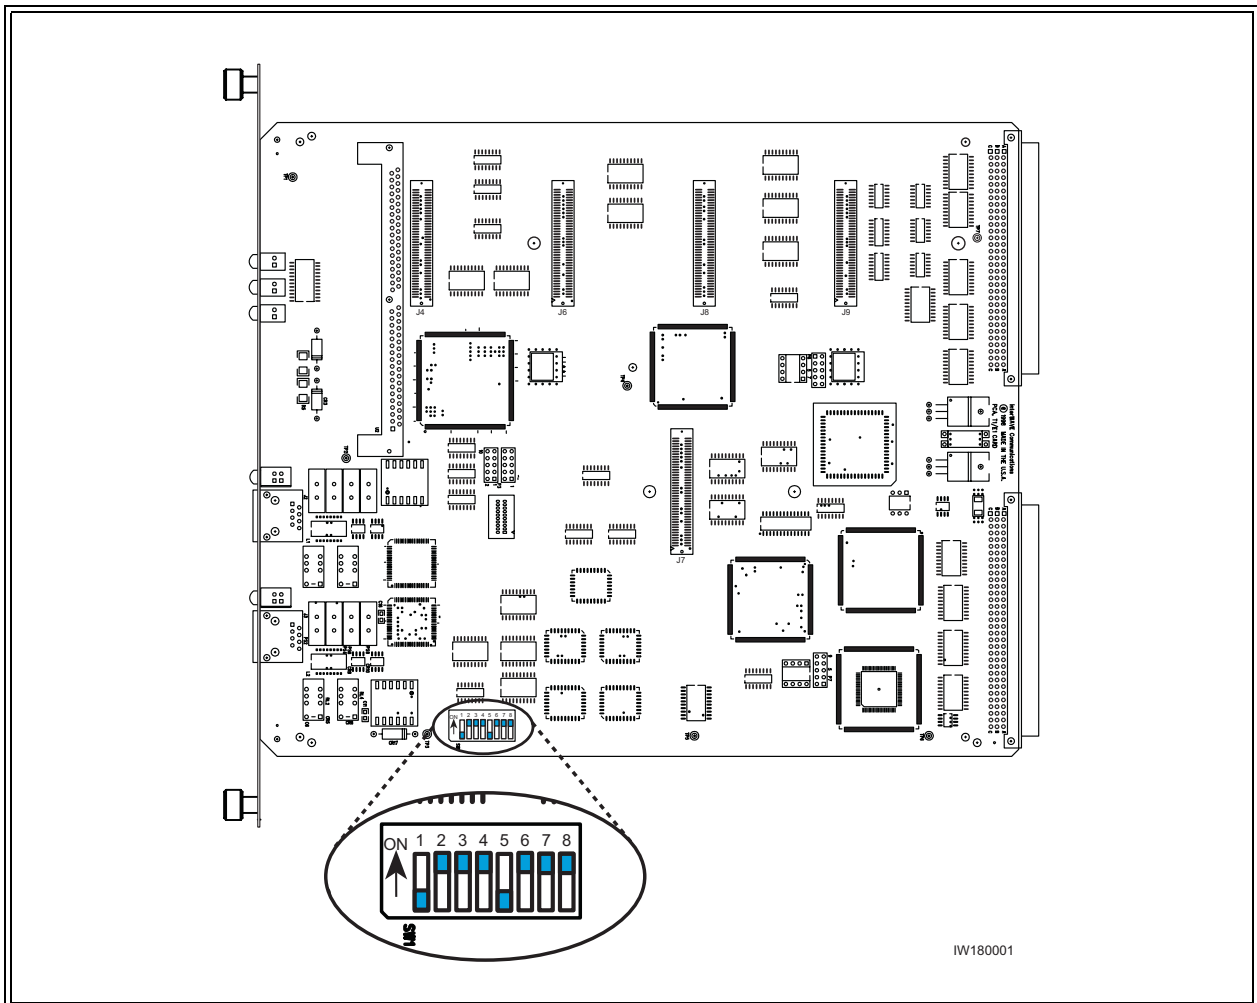

Figure 2-7 Location of DIP switch on a Trunk Card
- 5 See Figure 2-7 to locate the DIP switch.